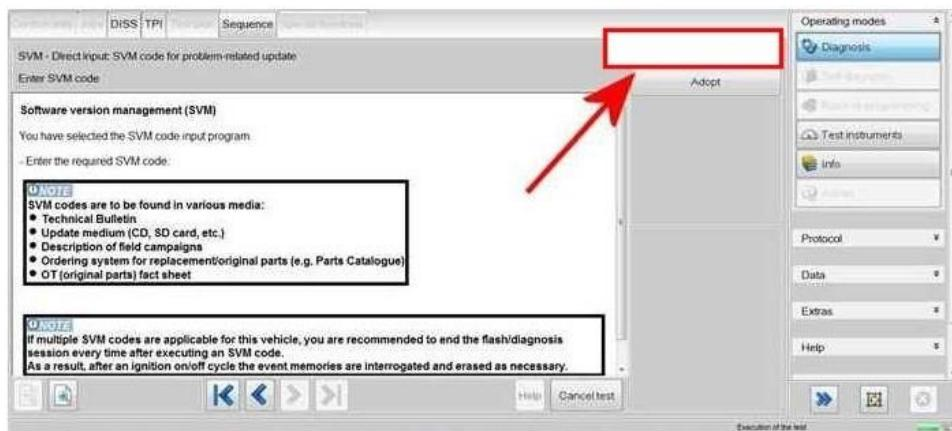

Figure 2
2) On the next screen enter SVM code **3Y0ECMLEVC601** (Figure 2)